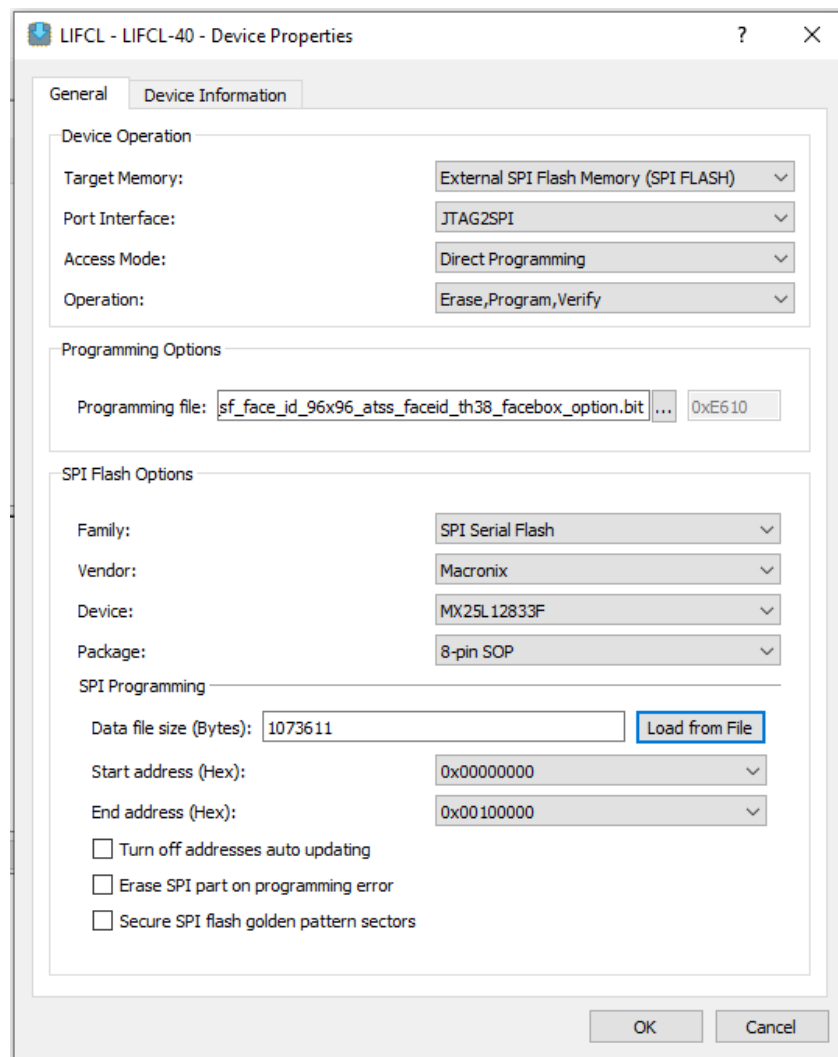

Figure 4.6. Radiant Programmer – Selecting Device Properties Options for CrossLink-NX Flashing
3. In the Device Properties dialog box, apply the settings shown in Figure 4.6.